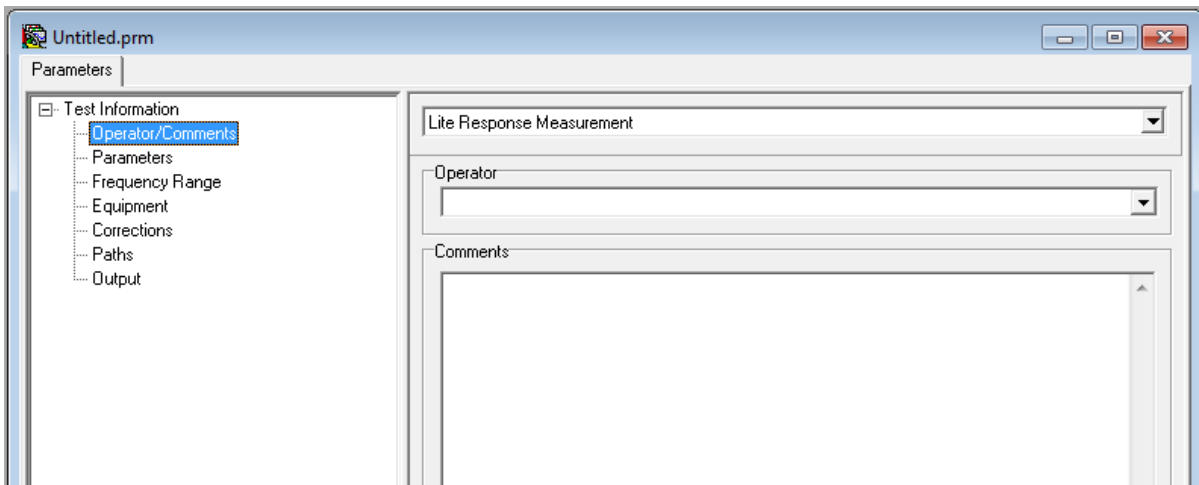

Figure 2. Operator/Comments tab (STEP 4).
4. Click on "**Operator/Comments**" and write your name in the **Operator** box. You may also use the **Comments** box to add additional notes (see Figure 2 below). It is advised that you include the date and time of your measurement for future reference (you will need to go back to this page to add the end time once your measurement is complete).